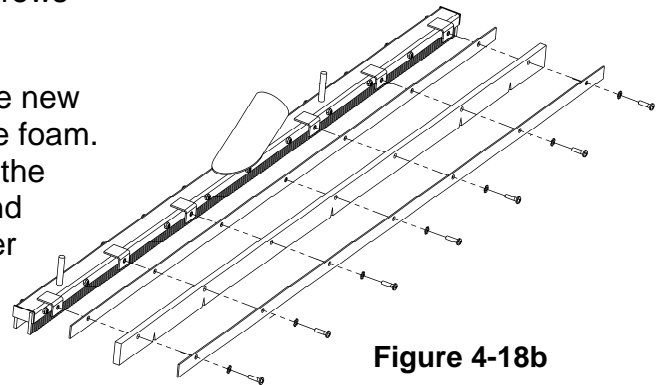

**Figure 4-18a**
3. Remove the two nuts and washers to release the vacuum head from the pivot arms, and remove the vacuum head from the **underside** of the machine as shown in Figure 4-18a.